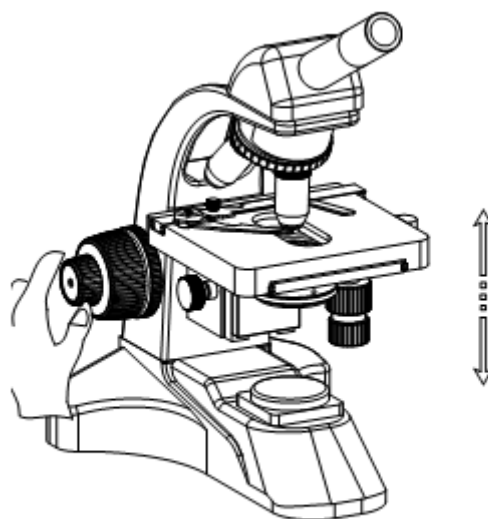

Fig.11
7.6 Adjust fine focusing knob to find clear image. (Fig.11)